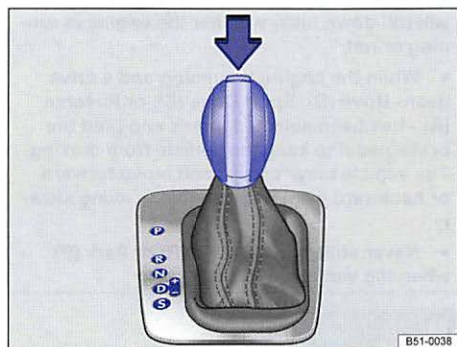

Fig. 110 Automatic transmission selector lever with shift lever release button.
Automatic transmission vehicles have an Automatic Shift Lock (ASL). With ASL, you must depress the brake pedal and hold it down while pressing the release button on the selector lever handle in the direction of the arrow $\Rightarrow$ fig. 110 in order to move the selector lever out of Park (P) and into a drive gear. When the selector lever is in Neutral (N), you also have to depress the brake pedal before you can move the selector lever to Drive (D), Sport Drive (S), or Reverse (R).